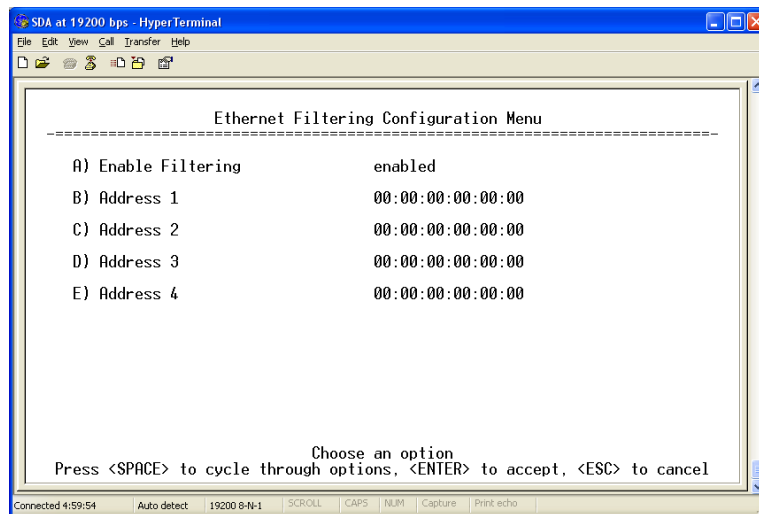

Figure 2-24. Ethernet Filtering Configuration Menu
- **Ethernet Filtering Configuration Menu** (Figure 2-24)—This selection brings up a submenu for defining which Ethernet devices will be “listened to” for forwarding of data packets into the wireless network. When **Ethernet Filtering** is enabled, only packets from listed Ethernet addresses will be forwarded. Up to four addresses may be specified.